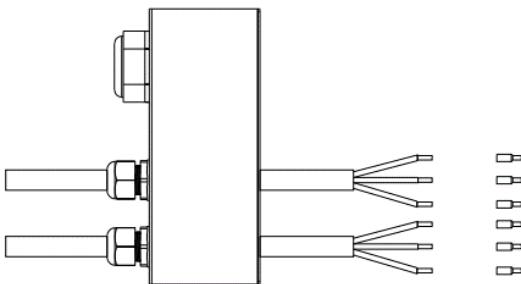

Fig. 6.3.1.2
- ⑤ Fix the terminals in Fig. 6.3.1.2 to the EPS terminal on the housing in Fig. 5.4.1 by the screws (freely provided) (three AC terminals at right side), and L, N, PE correspond to L, N, PE on the housing.